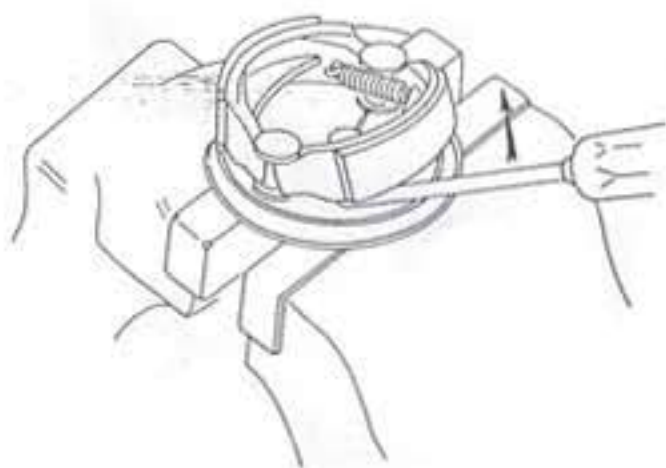

Fig. 1
- Insert a screwdriver between the brake backing plate and one brake shoe and press against it to remove the shoe (fig. 1). Lift the other shoe off the backing plate assembly.
- Set the center stand spring by passing a piece of string through the lower bow of the spring (fig. 1).
- Remove the spring (fig. 1).
- Slightly pull the pulley upwards and remove the bolt (fig. 1).